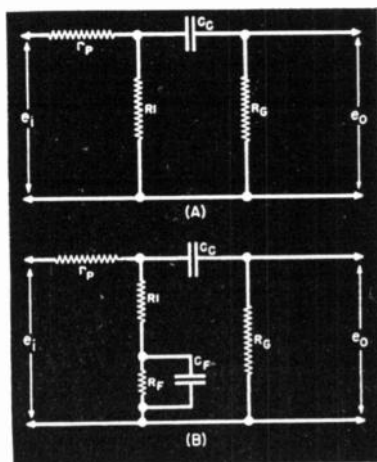

Fig. 2. Equivalent circuit of a resistance-coupled amplifier at the low frequencies. (A) Uncompensated. (B) Compensated.
It can be seen that the output voltage regulation of a feedback amplifier is excellent, and distortion produced by a variable output load will be greatly reduced. For a frequency where the load impedance varies from the optimum value, the feedback voltage also will vary in such a manner that stabilization of the output occurs. In case of a loudspeaker load, cone resonance and "hangover" effects are minimized. The frequency response of the amplifier of Fig. 1 with and without feedback is shown in Fig. 2.
**Fig. 2—Circuit of Fig. 1, curve A showing characteristics with no feedback, and curve B with 25 db feedback, with resistive line input and 8 ohm loudspeaker load**